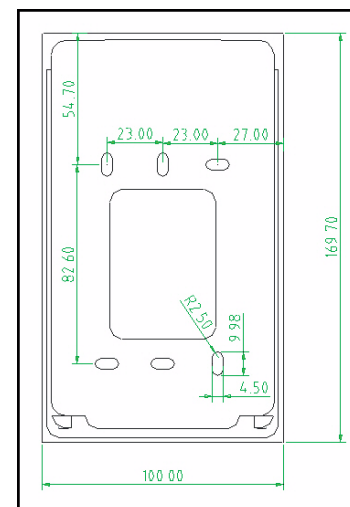

Figure C-8 Diagram of the Hole Locations in the Mounting Plate
- Drill mounting holes in the wall corresponding to the hole locations of the terminal's mounting plate. A diagram of the mounting plate's dimensions (values are shown in Metric units) is shown in **Figure C-8**.